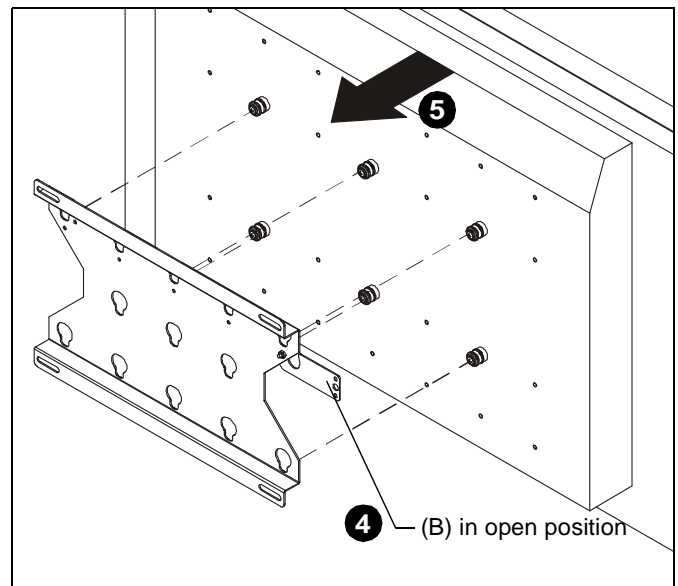

Figure 3
4. Make sure latching flag (B) is lowered to the open position. (See Figure 3)
5. With the aid of another person, lift the display up to the mount, aligning the mounting buttons with the teardrop slots in the mount and set the display into place. (See Figure 3)